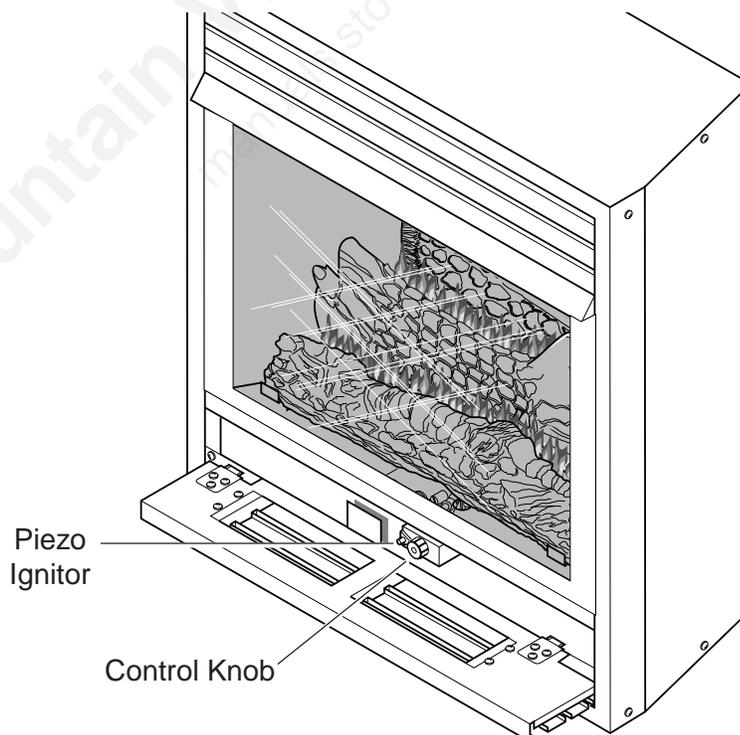

Figure 44 - Location of Piezo Ignitor & Control Knob
4. Refer to *Figure 44, page 29* for the location of the piezo ignitor and control knob. Push in gas control knob slightly and turn control knob clockwise to the OFF position.